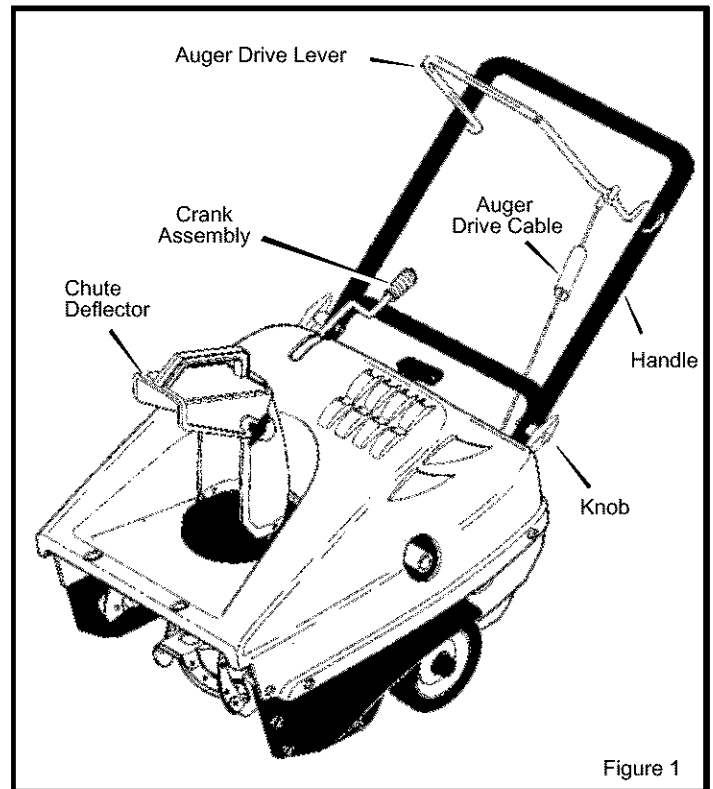

Figure 1
Figure 1 shows the snow thrower in the operating position.
1. Loosen the **knobs** on each side of the **handle** (Figure 1).